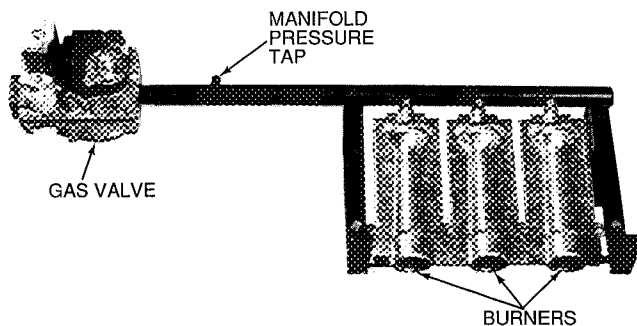

Fig. 39 — Burner Tray Details
8. Slide the burner tray out of the unit (Fig. 39).